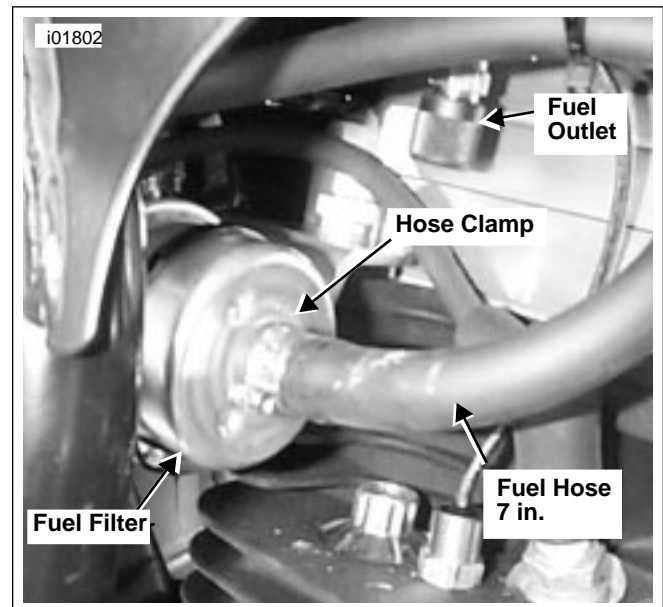

Figure 5. Fuel Tank to Filter
11. See Figure 5. Cut a piece of bulk fuel line (Part No. 63521-95) to 7 in. (177.8 mm). Attach the line to the fuel tank fuel outlet fitting with a hose clamp and tighten clamp.
12. Slide a hose clamp onto the 7 in. (177.8 mm) hose, attach the hose to the filter's inlet fitting and tighten clamp. Route hose as shown in Figure 5.
16. See Figure 5. Cut a piece of bulk fuel line (Part No. 63521-95) to 7 in. (177.8 mm). Attach the line to the fuel tank fuel outlet fitting with a hose clamp and tighten clamp.
17. Prop fuel tank against frame. Slide a hose clamp onto the 7 in. (177.8 mm) hose, attach the hose to the filter's inlet fitting and tighten clamp. Route hose as shown in Figure 5.